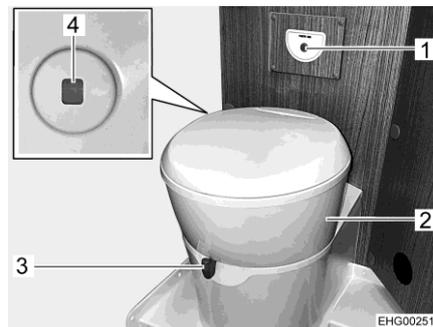

Fig. 132 Toilet
The toilet bowl can be rotated into the required position. In order to do this, grab the toilet's upper part (Fig. 132,2) with both hands and rotate it.
The operating unit with the flush button (Fig. 132,1) is installed near to the toilet bowl.
The colour of the level indicator (Fig. 132,4) changes from green to red whenever the sewage tank has to be emptied.
- Before flushing open the sliding trap of the toilet. To do this, push the slide lever (Fig. 132,3) in an anticlockwise direction.
- For flushing, press the blue flush button (Fig. 132,1).